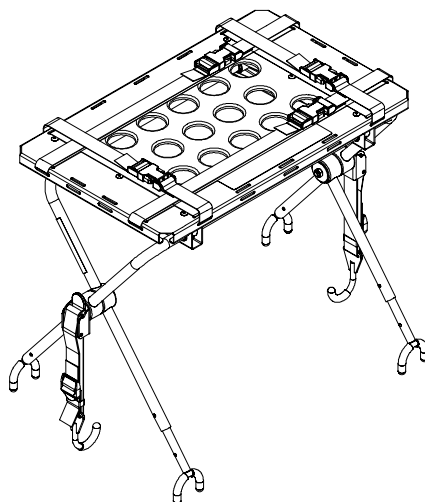

Figure 17 – Open defibrillator platform legs
2. Open and expand the defibrillator platform legs (Figure 17).